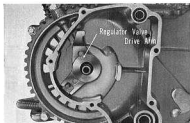

Fig. 7B-27
2. Remove the regulator valve drive arm from the pump shaft. (Fig. 7B-27)